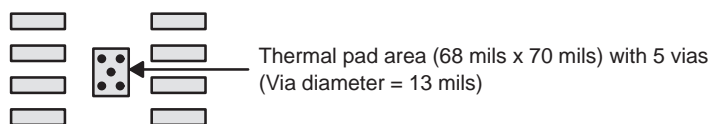

Figure 55. PowerPAD™ PCB Etch and Via Pattern
1. Prepare the PCB with a top-side etch pattern as shown in Figure 55. There should be etch for the leads as well as etch for the thermal pad.